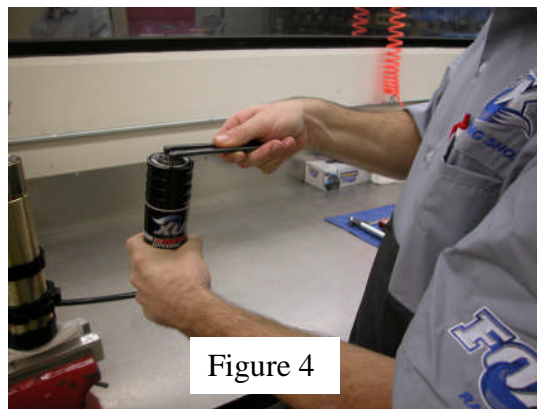

Figure 4
9. Remove the mushroom shaped cap from the end of the reservoir to expose Nitrogen Schrader valve. **(Figure 4)**